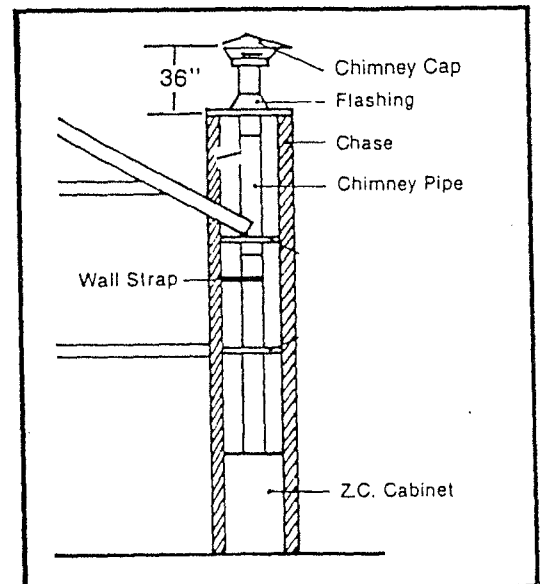

FIGURE 4 EXTERIOR WALL CHASE
B. Chase Installation: (See Figure 4). A chase is an enclosure built specifically to house a chimney. The interior of a chase is open from the Model ZC-80 to the roof, eliminating the need to cut through ceilings and the roof. Normally, a chase is built outside and against the exterior wall of a home. A hole is cut through the wall, and the Model ZC-80 is located in the bottom of the chase, with the front of the unit flush with the interior wall. Chases are commonly veneered on the outside with brick, stone or wood to give the appearance of a conventional fireplace flue. Occasionally, they are built inside and boxed in, similar to a stairwell. When making a chase installation, it is important to read the chimney manufacturer's instructions prior to building, as there are specific requirements for bracing a free-standing flue that must be planned for. There are also occasions where offsets are used within a chase to accommodate unusual building designs, or to locate the Model ZC-80 further into a room.